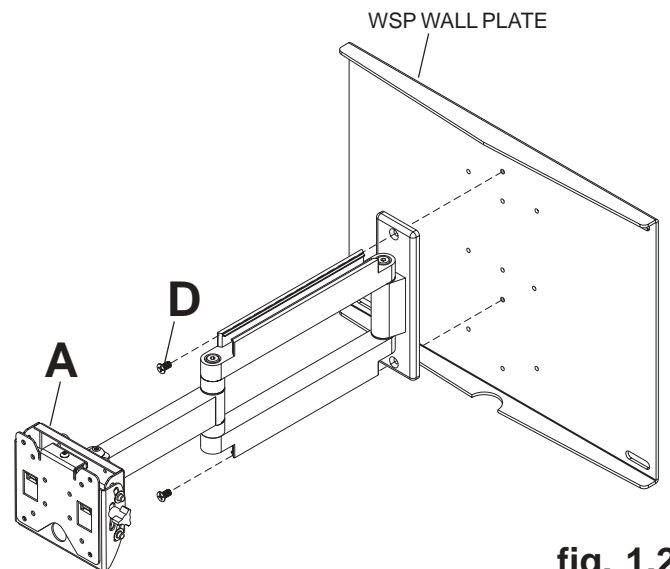

fig. 1.2
Install wall mount (A) using two 1/4-20 x 1/2" flat head phillips screws (D) as shown in figure 1.2.